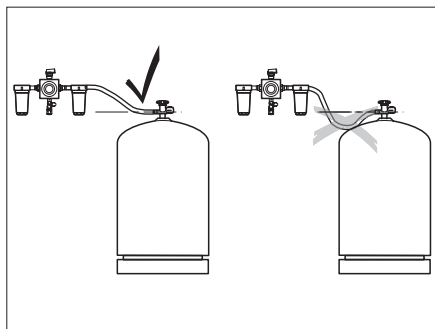

Fig. 133 Routing the high-pressure hoses
- When routing the high-pressure tubes ensure that the tubes rise continuously (Fig. 133).